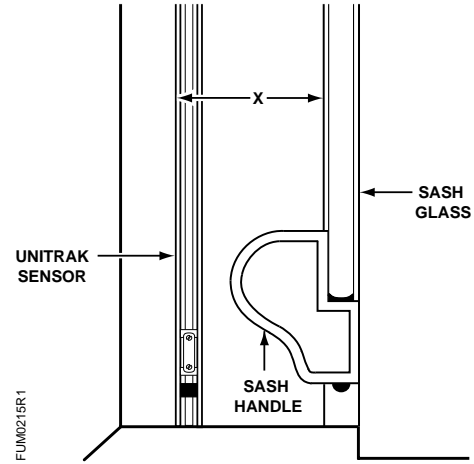

Figure 5. Measuring Between Sash and UniTrak® Sensor.
2. Measure the distance (x) from the edge of the sash glass to the edge of the UniTrak®. See Figure 5.
2. Measure the distance (x) from the edge of the sash glass to the edge of the UniTrak. See Figure 5.